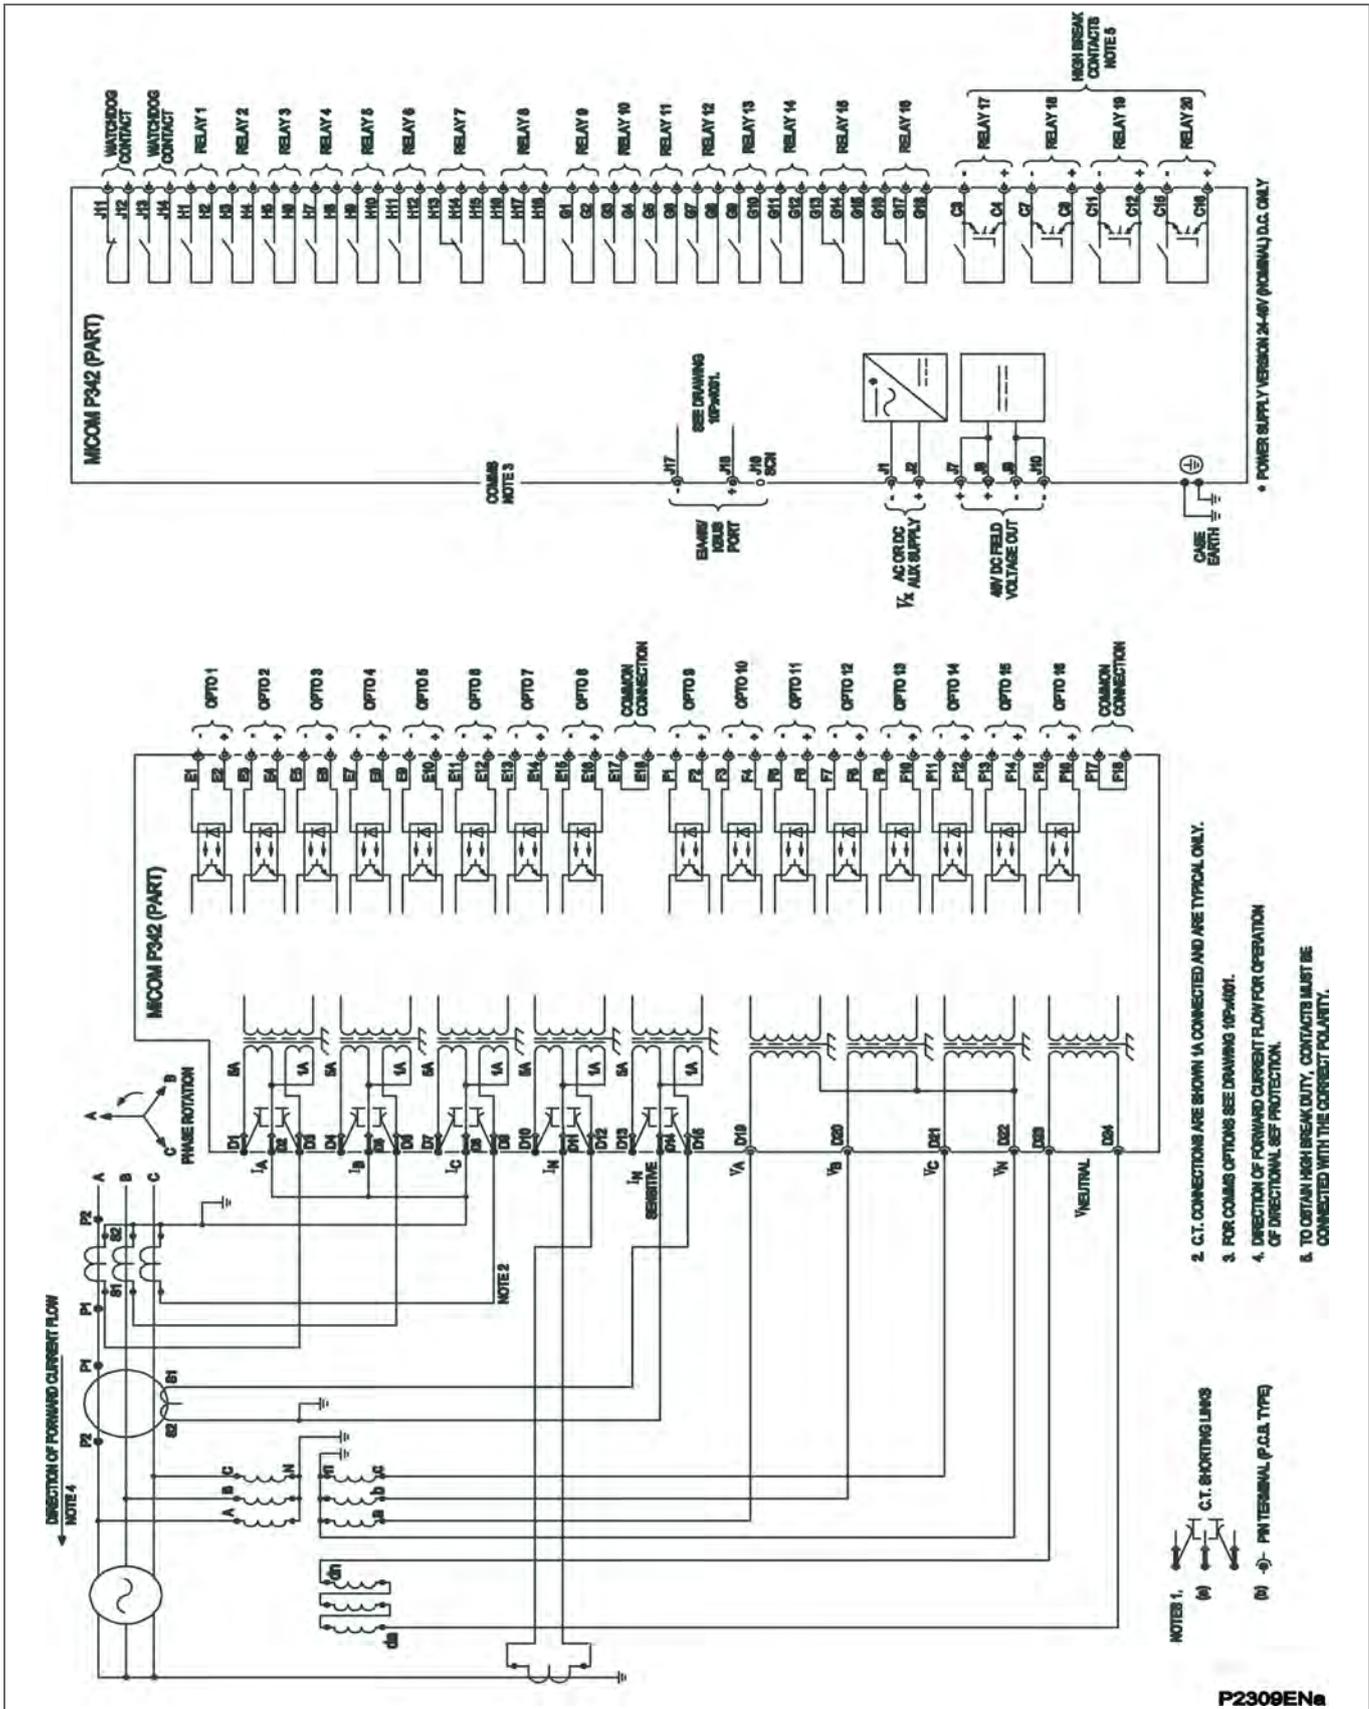

Figure 51 - P342 (60TE) for small generator (16 I/P & 20 O/P (4HB))
- Figure 51 - P342 (60TE) for small generator (16 I/P & 20 O/P (4HB))